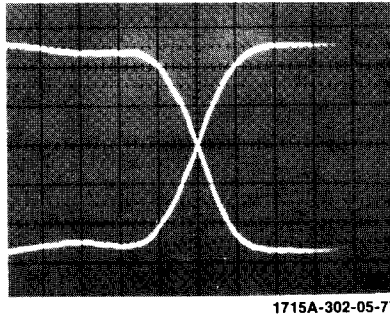

Figure 8. Pulse-width Measurements
12. Adjust TIME INTERVAL STOP to overlap the 50% point of the pulse trailing edge (for pulse-width measurements) or 50% point of the next pulse leading edge (for pulse-period measurements) at the center vertical line. (See figure 8 or 9 as applicable.)